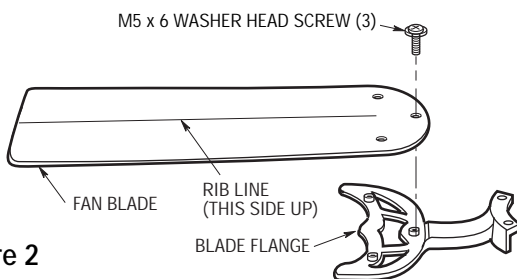

Figure 2
**IMPORTANT: THE SIDE OF THE FAN BLADE HAVING THE RIB LINE MUST BE FACING UPWARDS AS SHOWN IN FIGURE 2.**
- 6. Mount blade flanges to fan blades using three M5 x 6 washer head screws per blade (Figure 2).